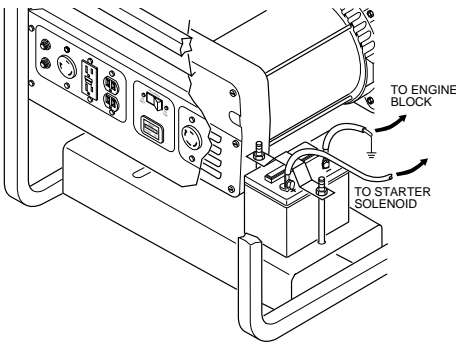

Figure 12 - Connecting Positive and Negative Cables to Battery (Model RGH7500IE Shown)
2. Locate the red, positive (+) battery cable from starter solenoid. Connect it to the positive (+) battery terminal (see Figures 12 and 13, page 9).
3. Locate the black, negative (-) battery cable attached to engine block. Connect it to the negative (-) battery terminal (see Figures 12 and 13, page 9).
Grounding generator helps prevent electric shock from a ground fault condition. Locate ground lug on end of generator housing (see Figure 12). Attach a #10 stranded-copper ground wire to ground lug. Drive grounding point into ground. Grounding point can be a stake, grounding rod, or pipe. Grounding point should be copper or brass. Attach ground wire to grounding point. You must supply the ground wire and grounding point. These do not come with generator. Follow the *National Electrical Code* and all state and local codes. Consult your power company or a licensed electrician.